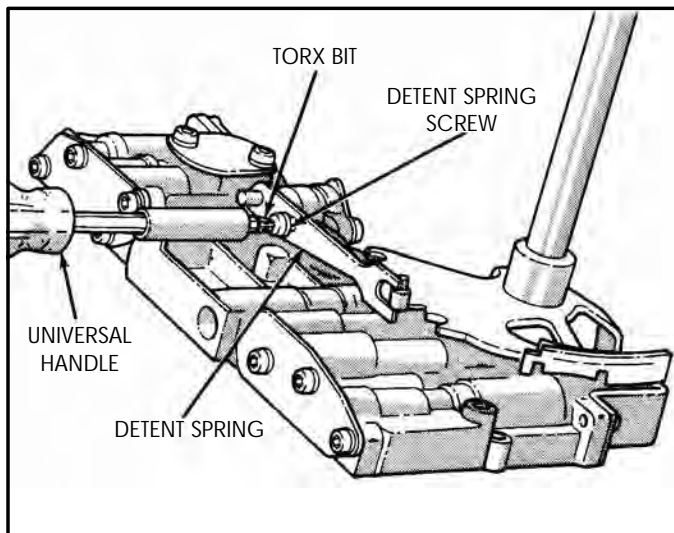

Figure 90
1. Remove the retaining screw for detent spring, as shown in Figure 90, and remove the detent spring.